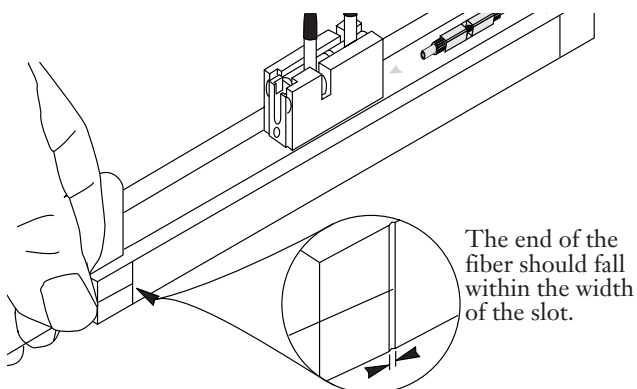

Figure 5
5.4 Strip, clean, and cleave the first fiber to 0.55 ($\pm .02$) inches [14 mm \pm 0.5 mm]. Check the fiber's strip length with the tool's strip length gauge (Figure 5).